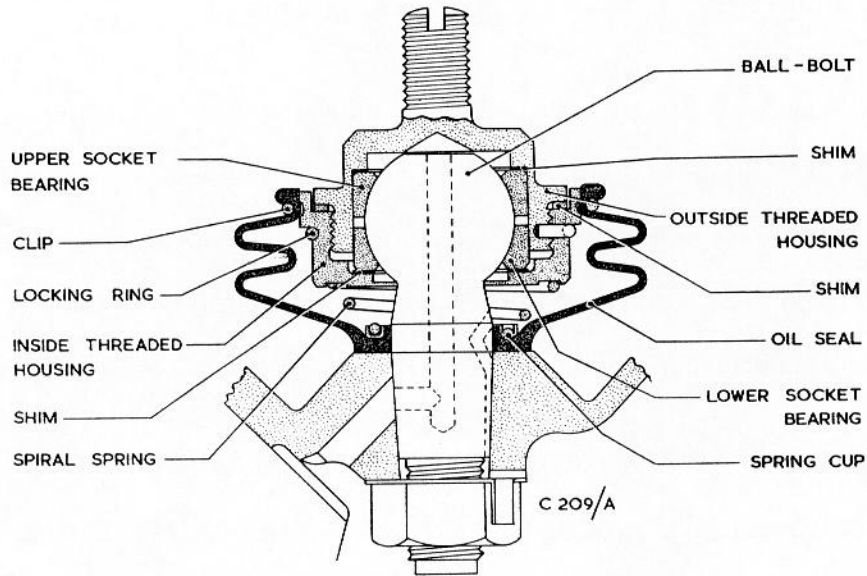

Fig. 21 Section of ball joint assembly.
To refit the ball joint, reverse the foregoing procedure. Ensure that the oil passage in the side of the ball bolt taper coincides with the oil passage in the differential gearbox housing, see Fig. 21. Fit the angle tabwasher from inside the gearbox housing, making sure that the tabwasher does not obstruct the oil feed passage or the oil return groove. Fit the nut to the ball bolt, then tighten the nut and lock it with the tabwasher.
1. Referring to Figs. 21 and 22, remove the clip and saddle piece, securing the rubber oil seal.